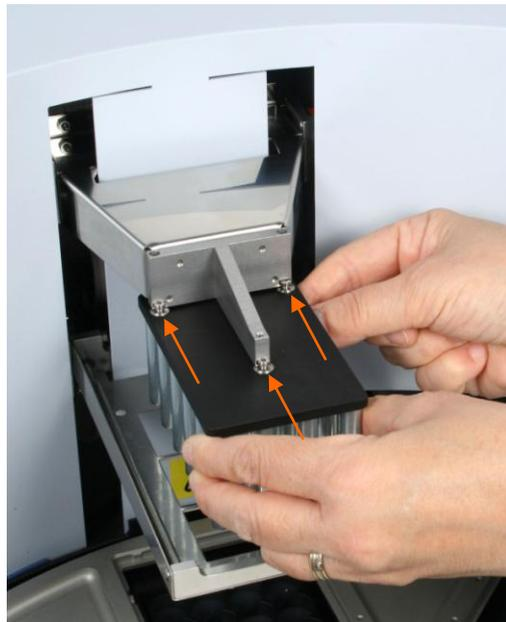
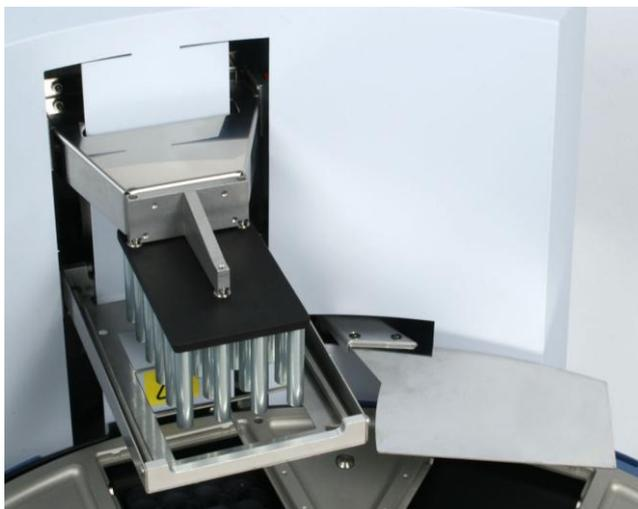

Figure 12. Inserting the KingFisher Flex head
Figure 13. KingFisher Flex head for KingFisher 24 deep well plate fitted
3. Insert the KingFisher Flex head so that the three pins (shown with orange arrows) slot into place (Figure 12 and Figure 13).